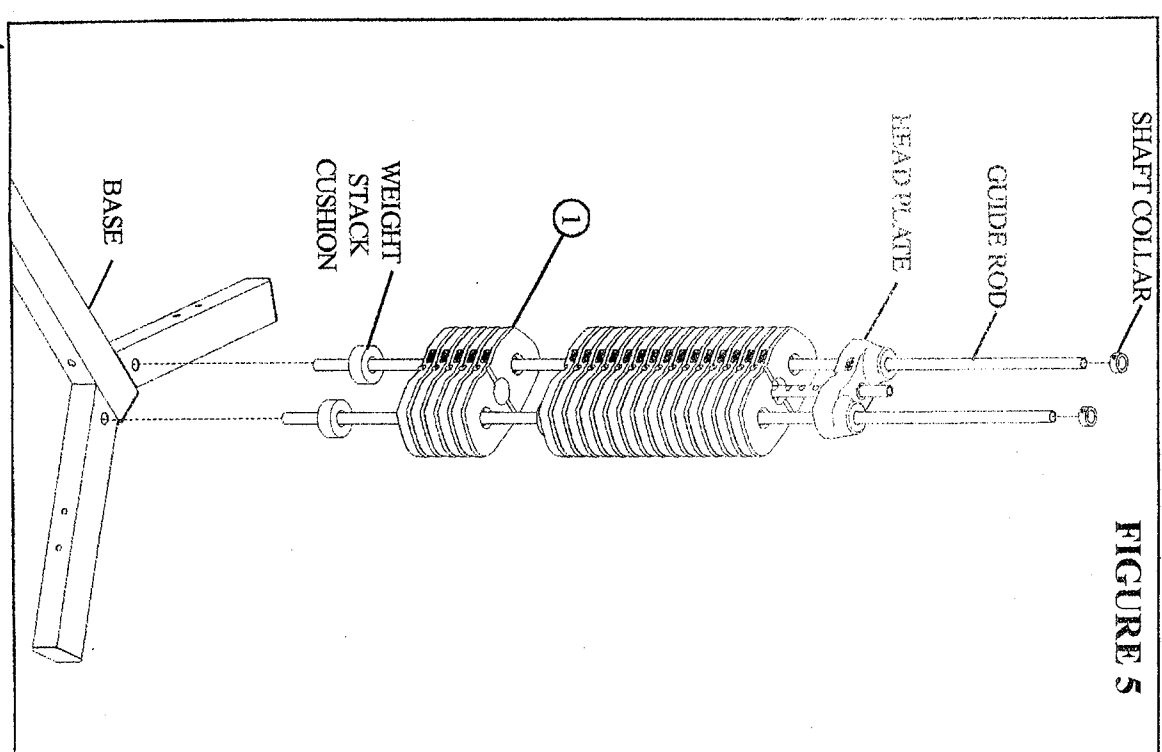

FIGURE 5
- Insert the two GUIDE RODS through the two WEIGHT STACK CUSHIONS into the base as shown in FIGURE 5.
- USING EXTREME CARE, slide the five new WEIGHT PLATES (1) and the previous fifteen WEIGHT PLATES down over the GUIDE RODS onto the WEIGHT STACK CUSHIONS. (NOTE: Make sure that the key holes of the WEIGHT PLATES all face the same way.)
- Carefully slide the new HEAD PLATE ASSEMBLY and the SHAFT COLLARS down over the GUIDE RODS onto the weight stack as shown in FIGURE 5.